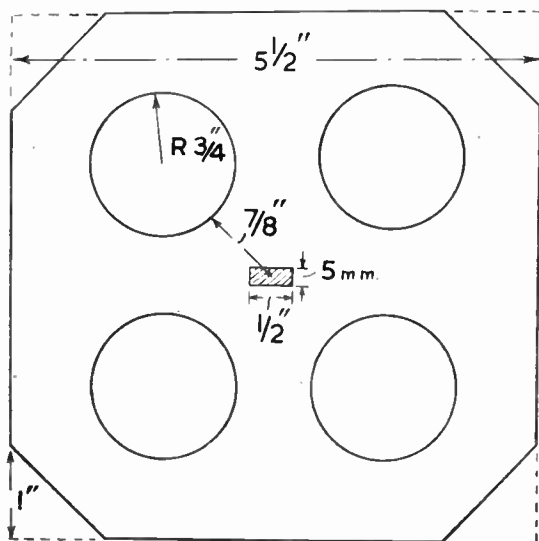

Fig. 1—Plan of the top
First of all cover the square piece with gummed white paper, allow this to dry, and then trim the paper to the edges of the Perspex. Now set out the plan of the top according to Fig. 1. All the shaded areas have to be removed with your fretsaw. The corners are easy. A fretsaw is also used to remove the circular pieces where the eggs fit. Smooth down the inside of each circular cut with a half-round file, and finish off with fine glasspaper.
Cut a baseboard 7ins. by 5ins. from ¼ in. wood, and glue and screw the solenoid into position, as in Fig. 1. Join the wires to the terminals (T) as shown, and hang the tubes so that they are about a ¼ in. from the ends of the plunger. When the chimes are working these tubes will have to be adjusted a
The complete wiring is shown in Fig. 1. (R) is a bell-push and (P) the source of power. This can be either two 4-volt batteries joined in series, or